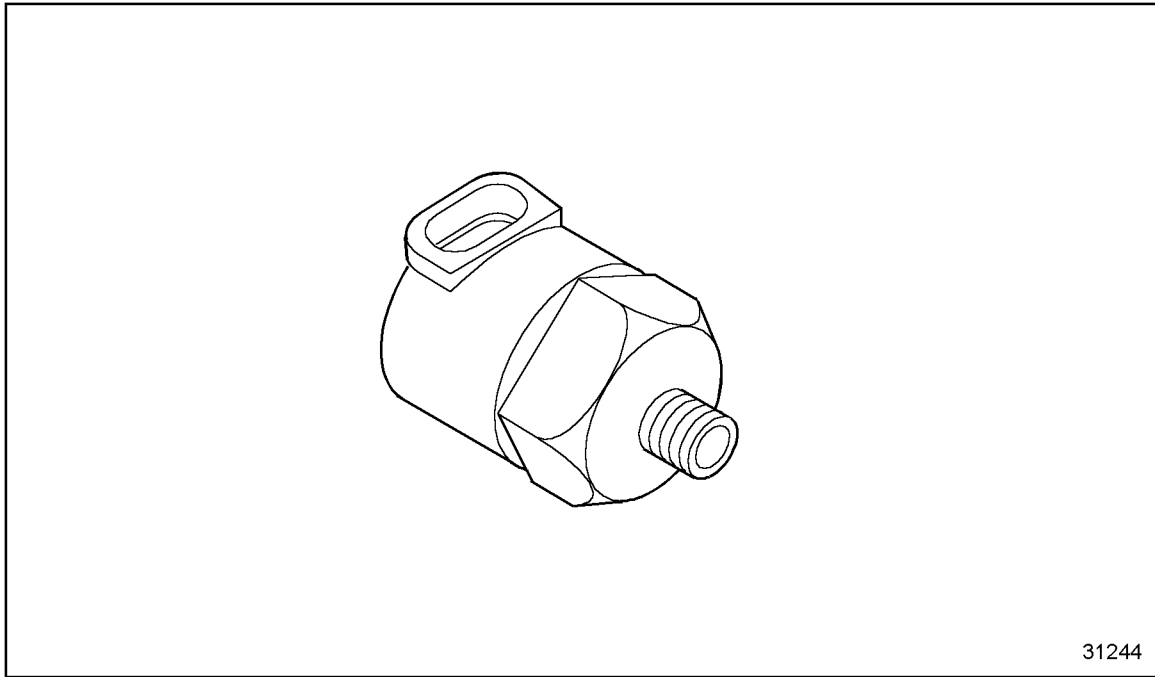

Figure 36-1 Oil Pressure Sensor
Flash Code 36 indicates that the engine Oil Pressure Sensor (OPS), see Figure 36-1, input to the ECM has dropped below 5% (normally < 0.25 volts) of the sensor supply voltage.
2. Disconnect OPS connector and install a jumper wire between sockets B and C of the OPS harness connector. See Figure 36-1.